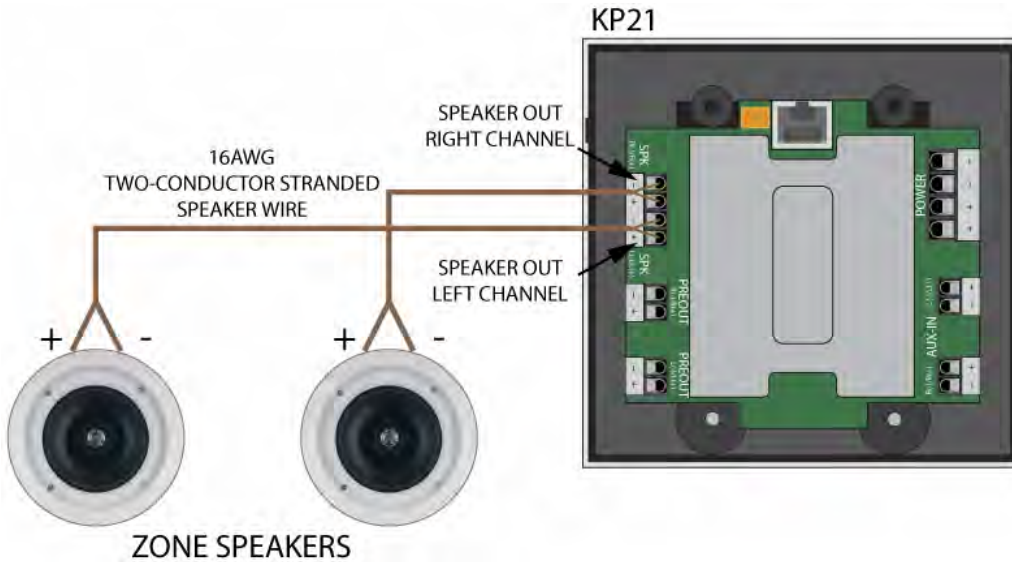

Figure 98 KP21 Speaker Connections
2. Insert the twisted ends into the appropriate slots on the **R+/R-** and **L+/L-** speaker (**SPK**) **Terminals [hexagon 24]** on the KP21 rear panel as shown in **Figure 98**, and tighten with a small blade screwdriver. Pull the wire slightly to confirm connection. Confirm polarity.